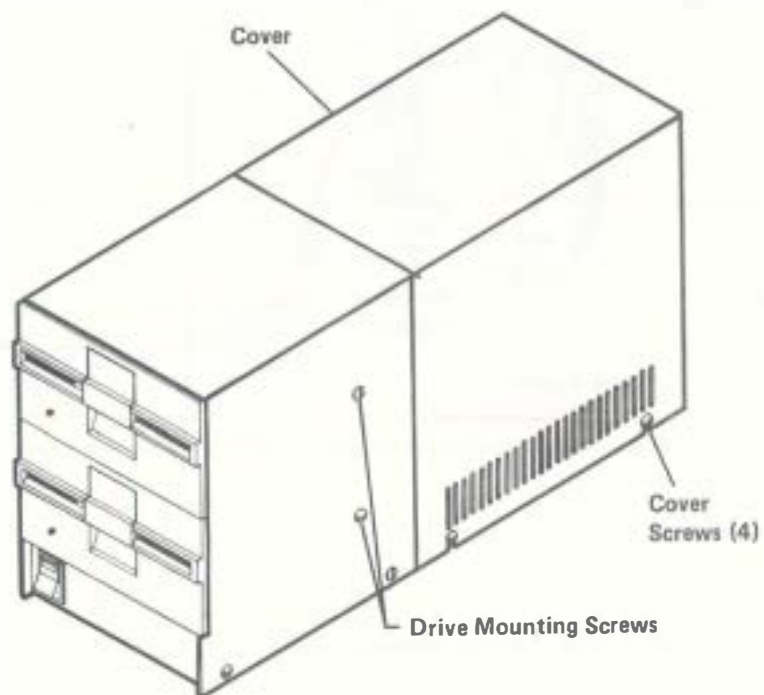

Figure 5-23. 5 $\frac{1}{4}$ " Diskette Drive Assembly
4. Remove the four screws securing the diskette drive assembly's cover. Remove the cover. See Figure 5-23.
6. Remove the two screws securing the diskette drive to the housing. See Figure 5-23.
2. Secure the diskette drive to the housing with the two screws. See Figure 5-23.
5. Place the cover on the diskette drive assembly. Secure the cover with the four screws. See Figure 5-23.